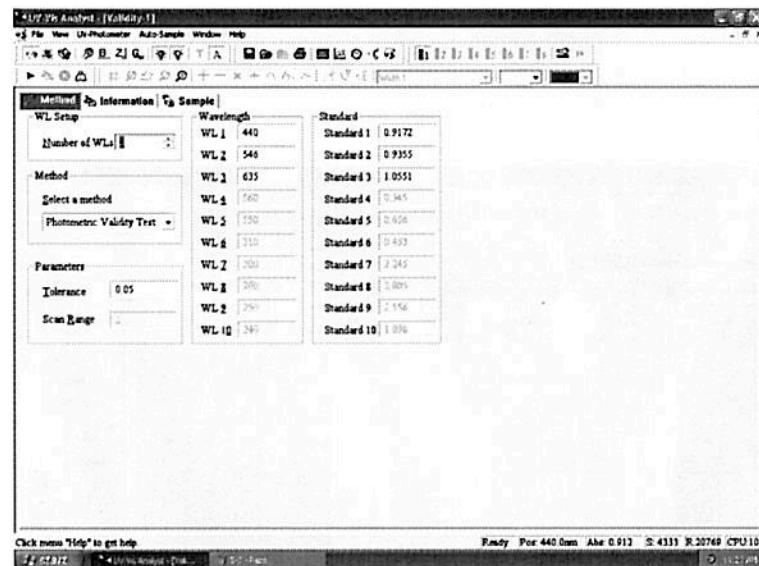

Fig. 5-1
1. Click  on the toolbar. The following form appears (Fig. 5-1).